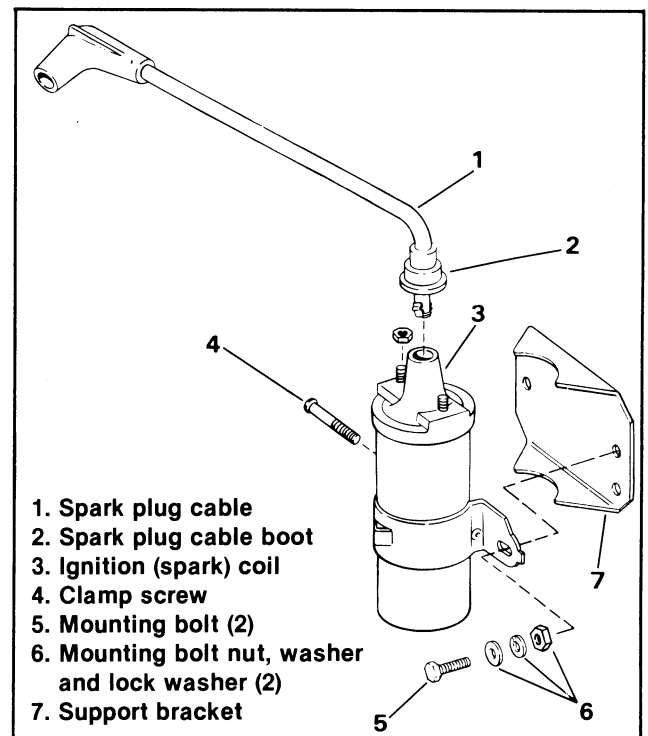

Figure 8-21. Ignition Coil
1. Disconnect terminal wires (1) and (2) and spark plug wire (3).
2. See Figure 8-21. Remove mounting bolts (5), washers, lockwashers and nuts (6) to free coil bracket.
3. See Figure 8-21. Loosen coil clamp screw (4) and lift coil out.
1. See Figure 8-21. Mount coil (3) to bracket (7), fasten coil bracket (7) using washers, lockwashers, nuts (6) and mounting bolts (5).
3. See Figure 8-21. Connect spark plug wires (1) to center post on coil (3).